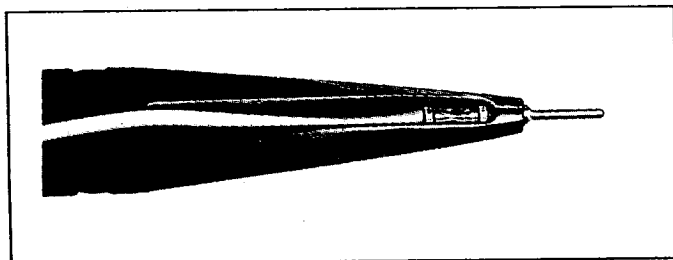

Figure 2
- c. Grip the contact at the shoulder nearest the mating end of the contact. The contact should be positioned against the shoulder undercut in the tips of the tool. See figure 2. Insert the contact in the applicable contact hole in the rear of the insert, until the tips of the tool bottom against the insert.